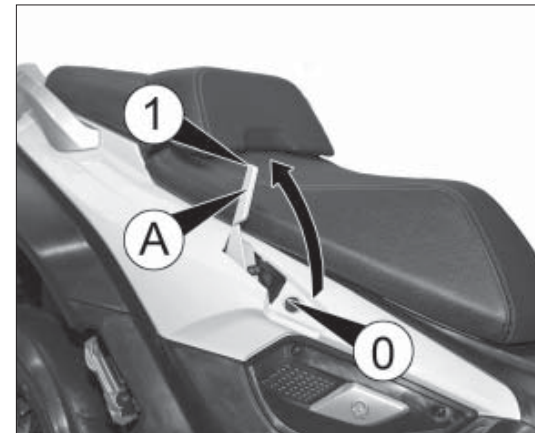

fig. 8
- lower lever A fig. 8, accompanying it from position 1 to position 0 without letting go for the whole duration of the operation;